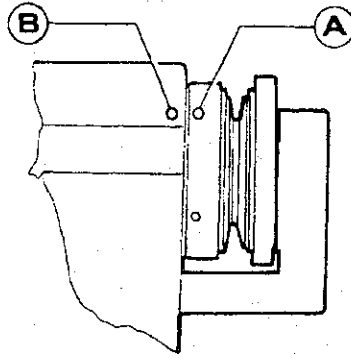

Fig. 29
Align balance wheel machine arm No. 2 Positioning Mark (A) with Positioning Mark (B) on the machine arm as shown in Fig. 29.